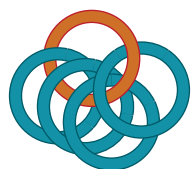

FIG. 1
2. Thread the 4 closed jump rings onto one open jump ring and then close it (FIG. 1).